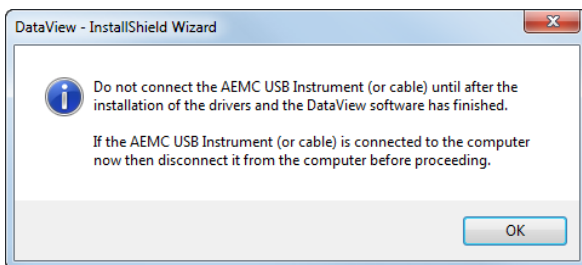

Figure 5-4
13. If the instrument selected for installation requires the use of a USB port, a warning box will appear, similar to Figure 5-4. Click **OK**.